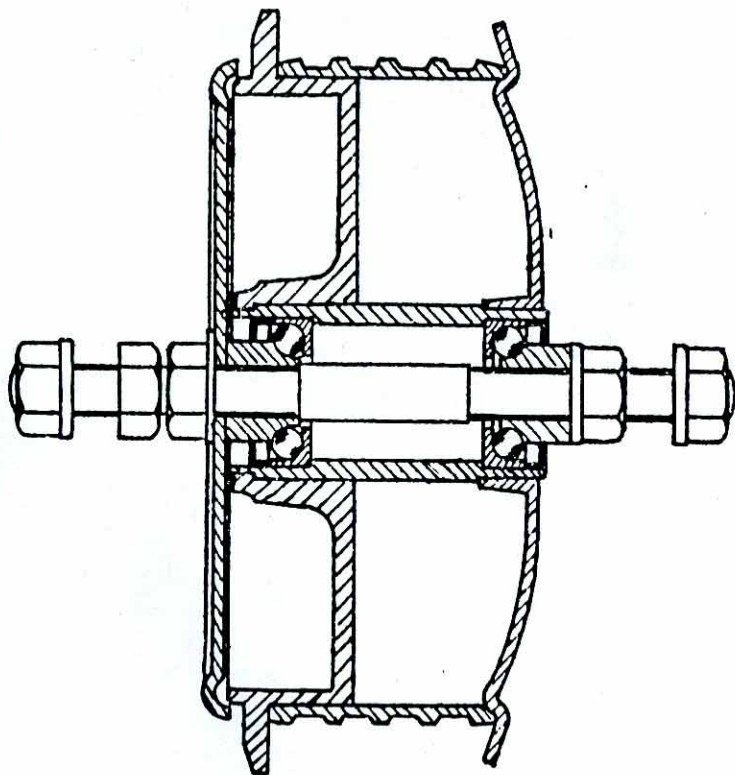

FIG. 5—FRONT HUB SHOWING CONES
**HUBS, DISMANTLING AND RE-ASSEMBLING, CUP AND CONE TYPE, THREE-STAR, FRONT.** In order to clean out and re-pack with fresh, clean grease, as recommended it is necessary to completely dismantle the fittings from inside the hub shell. Fig. 5 is a cross-section of this type of hub which makes the assembly quite clear. Remove the spindle nuts and the locknut from the plain side of the hub. This will enable the adjustable cone to be removed, holding the assembly over a suitable pan so that the balls thus released are not lost. The spindle and fixed cone may now be withdrawn from the opposite side. Again there will be a loss of balls. Wipe the grease from the cups in the hub shell and examine them for wear. Unless they are pitted or otherwise worn they should not be removed. If necessary they can be knocked